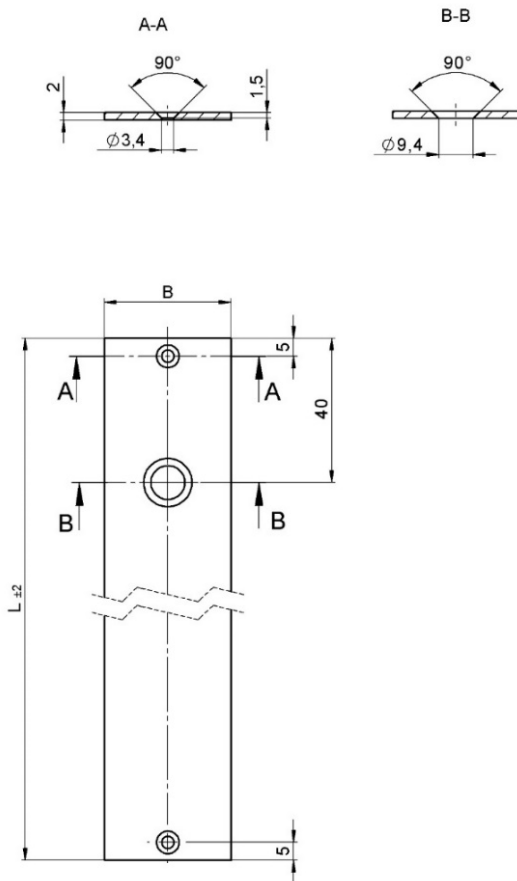

Fig. 3: Drill and countersink positioning band profile (order no.: 08-B020-6780 / 08-B020-7484)
If it is necessary to shorten the positioning band profile on site, the holes for the EJOT PT Screw K30X8 WN1423 and for the countersunk screw (DIN7991 M6x10-8.8) must be drilled and countersunk (see Fig. 3). The required part lengths are to be cut according to size with a metal saw on site. The cuts must be deburred with a file.
- Screw the positioning band profiles onto the ends of a rail holder (item 3) with EJOT PT Screw K30X8 WN1423 (item 4) (for the position of the screws, see Fig. 3).